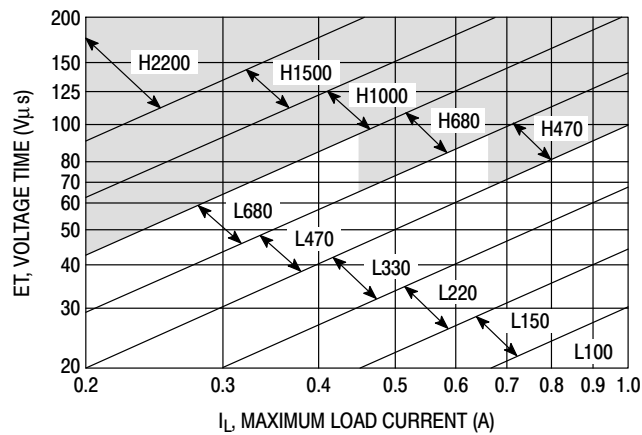

Figure 21. LM2575-Adj
4. Inductor Selection (L1) A. Use the following formula to calculate the inductor Volt x microsecond [V x μs] constant: $E \times T = (V_{in} - V_{out}) \times \frac{V_{out}}{V_{on}} \times \frac{10^6}{F[\text{Hz}]} [\text{V} \times \mu\text{s}]$ B. Match the calculated E x T value with the corresponding number on the vertical axis of the Inductor Value Selection Guide shown in Figure 21. This E x T constant is a measure of the energy handling capability of an inductor and is dependent upon the type of core, the core area, the number of turns, and the duty cycle. C. Next step is to identify the inductance region intersected by the E x T value and the maximum load current value on the horizontal axis shown in Figure 21. D. From the inductor code, identify the inductor value. Then select an appropriate inductor from the Table 1 or Table 2. The inductor chosen must be rated for a switching frequency of 52 kHz and for a current rating of $1.15 \times I_{load}$. The inductor current rating can also be determined by calculating the inductor peak current: $I_{p(\text{max})} = I_{\text{Load}(\text{max})} + \frac{(V_{in} - V_{out}) t_{on}}{2L}$ where t_{on} is the "on" time of the power switch and $t_{on} = \frac{V_{out}}{V_{in}} \times \frac{1}{f_{osc}}$ For additional information about the inductor, see the inductor section in the "External Components" section of this data sheet.	4. Inductor Selection (L1) A. Calculate E x T [V x μs] constant: $E \times T = (12 - 8.0) \times \frac{8.0}{12} \times \frac{1000}{52} = 51 [\text{V} \times \mu\text{s}]$ B. E x T = 51 [V x μs] C. $I_{\text{Load}(\text{max})} = 1.0 \text{ A}$ Inductance Region = L220 D. Proper inductor value = 220 μH Choose the inductor from the Table 1 or Table 2.